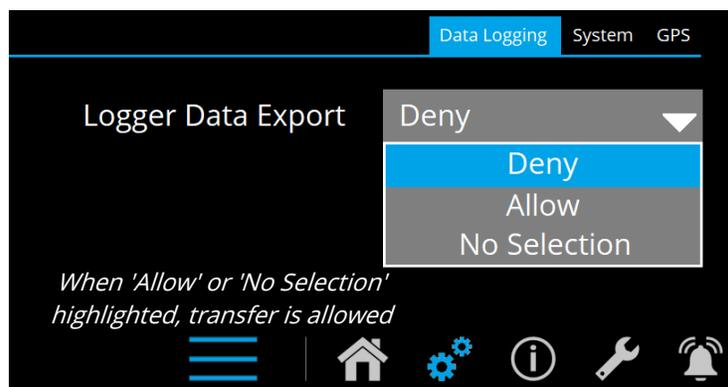

Figure 1: Data Logging page showing data log transfer authorized
- c. **SELECT** 'Data Logging tab' (Figure 1).